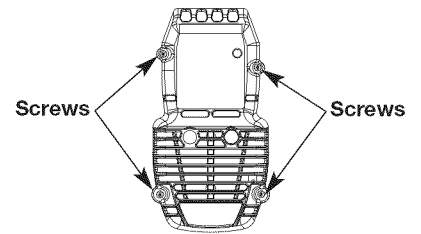

Fig. 13
1. Remove the four (4) screws securing the air filter/ muffler cover (Fig. 13). Use a flat blade or T-20 Torx bit screwdriver.
2. Insert the four (4) screws into the holes in the air filter/muffler cover (Fig. 13) and tighten. **Do not over tighten.**
8. Reinstall the air filter/muffler cover (Fig. 13).